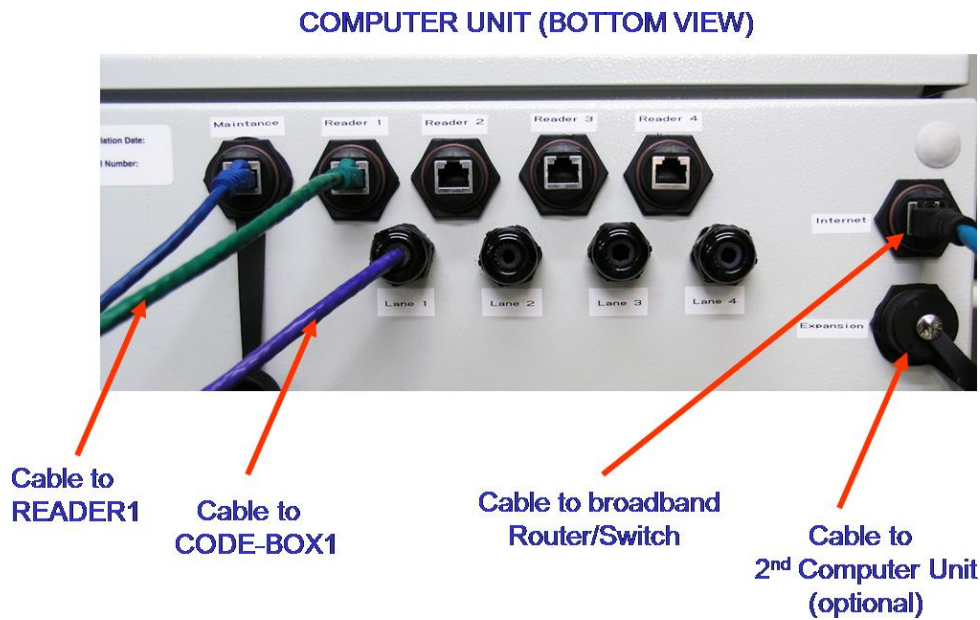

Figure 5: Location of Computer Unit cables
2. Attached these CAT6 cables, plus the broadband cable, to the Computer cabinet unit as shown in Figure 5.